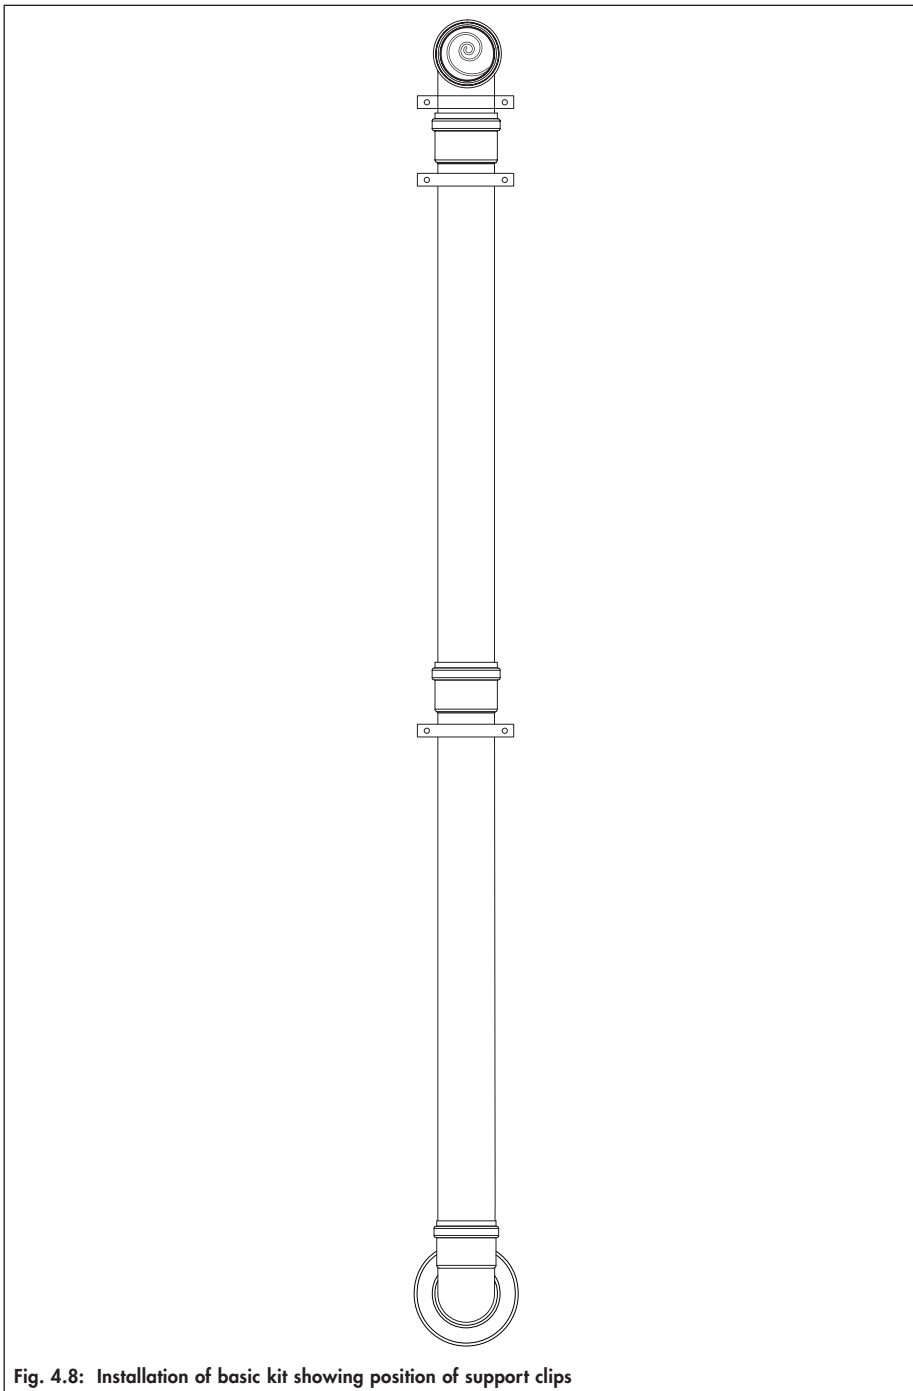

Fig. 4.8: Installation of basic kit showing position of support clips
- Fit the pipes and bends, working from the variable terminal to the selected location for the flue exit using support clips supplied fig 4.8, 4.9, 4.10 or 4.11.